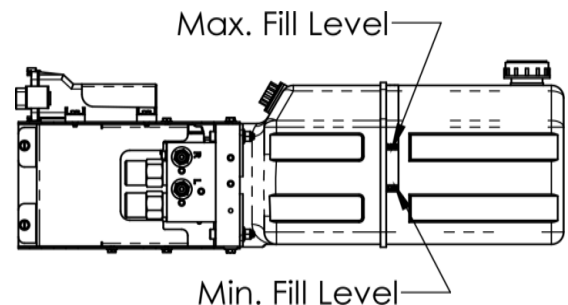

Figure 41. Final fill fluid level.
7. Add fluid to the reservoir until the fluid level is within the band shown in Figure 41.